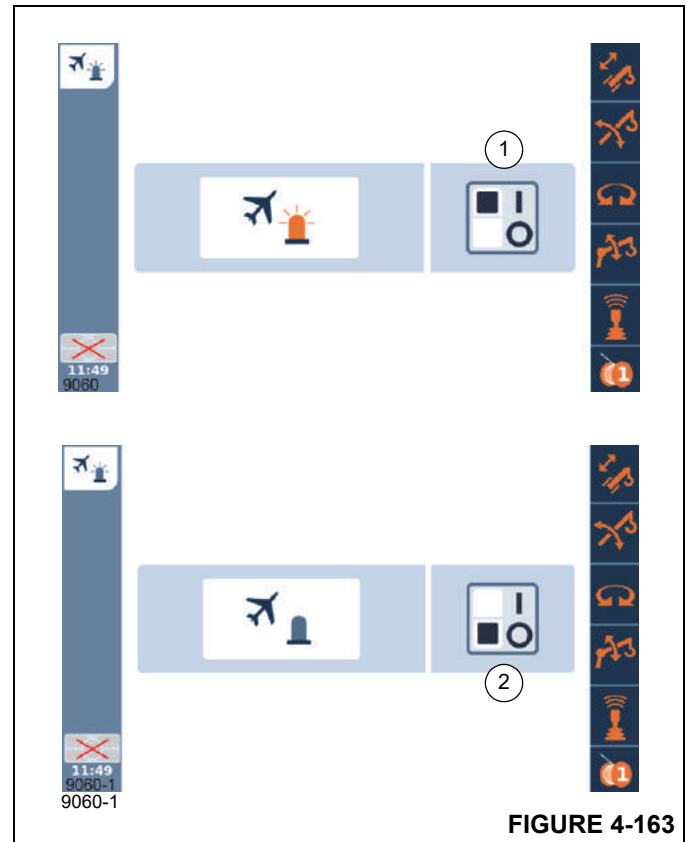

FIGURE 4-163
The Boom Position Indicator Light function screen (Figure 4-163) allows the operator to switch the boom Position indicator light on and off.
Switching on: Select symbol (1), (Figure 4-163) and confirm.